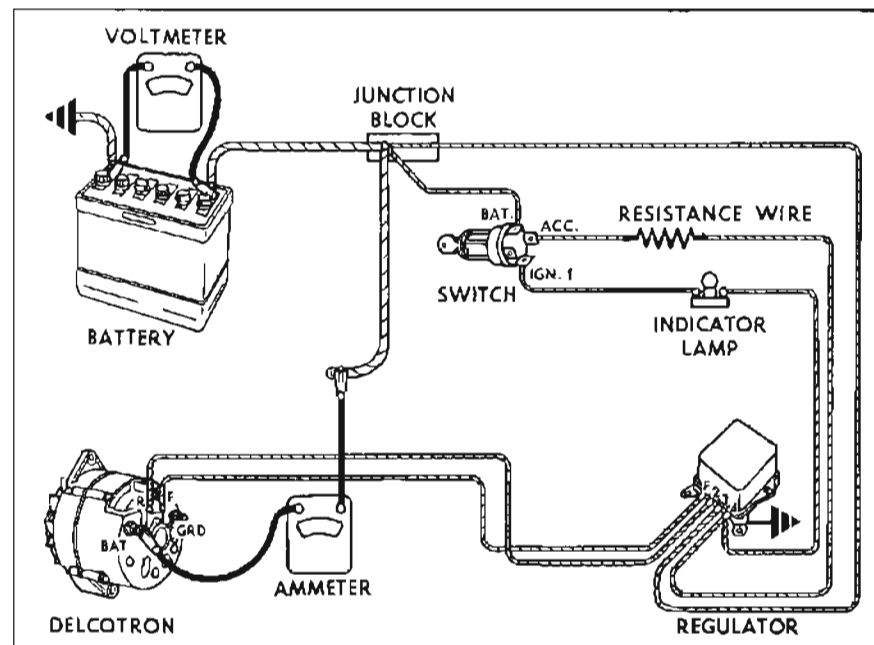

Figure 10-20—Delcotron Generator Tests
3. Connect ammeter between generator "BAT" terminal and disconnected lead as shown in Figure 10-20.